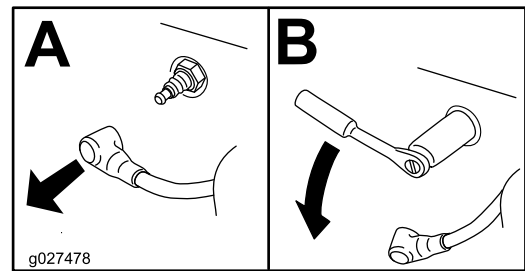

Figure 49
- Remove the spark plug (Figure 49).